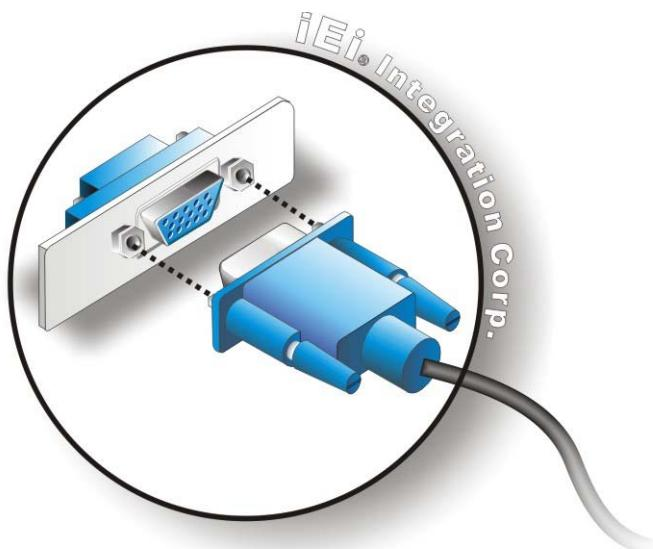

Figure 4-25: VGA Connector
Step 3: Insert the VGA connector Once the connectors are properly aligned with the insert the male connector from the VGA screen into the female connector on the IMBA-Q870-i2. See Figure 4-25.